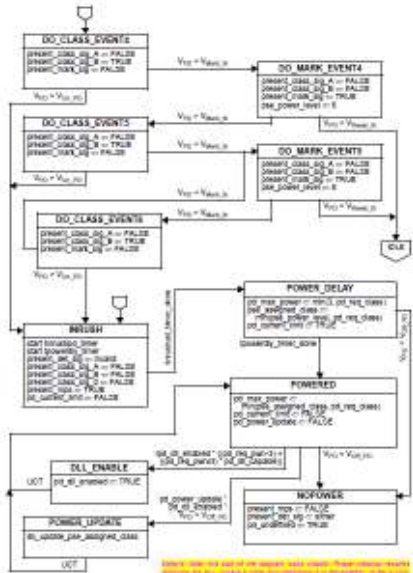

Figure 145-27—Type 3 and Type 4 single-signature PD state diagram (Continued)
-Editor to replace `pd_req_pwr` variable (it is PSE and not PD variable) with `pd_req_class` in Figure 145-27 in all locations.